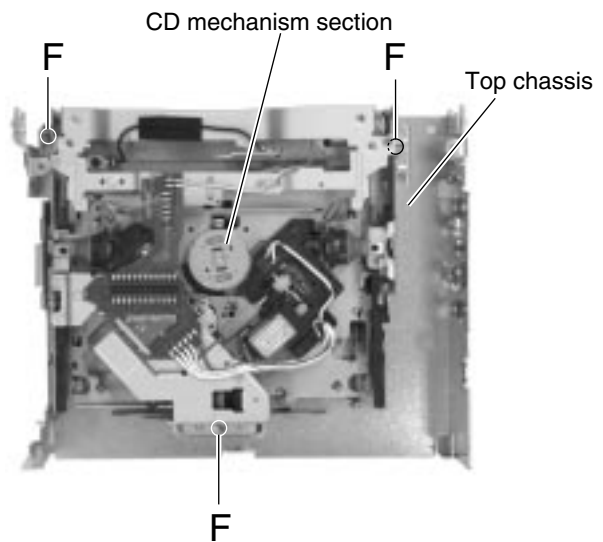

Fig.9
■ Removing the CD mechanism section (See Fig.9)